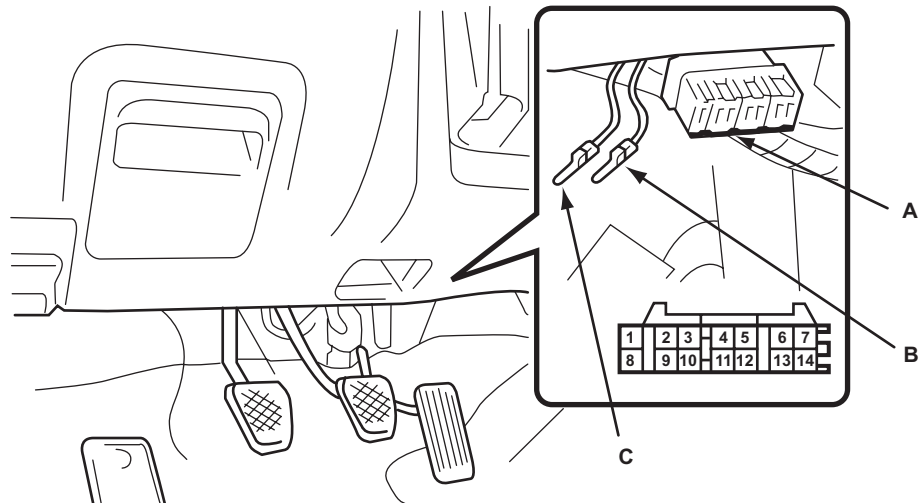

Figure 15-59 2005 Forester and 2005 Impreza SRS Diagnostic connector (gray)
- 2005 Forester (Figure 15-59 on page 227)
- 2005 Impreza (Figure 15-59 on page 227)
1. With the key on and the engine off, install either diagnostic terminal into pin 2 or the airbag (SRS) diagnostic connector. The connector is located in the left lower dash panel area (Figure 15-59).
1. With the key on and the engine off, install either diagnostic terminal into pin 2 of the airbag (SRS) diagnostic connector (Figure 15-59).